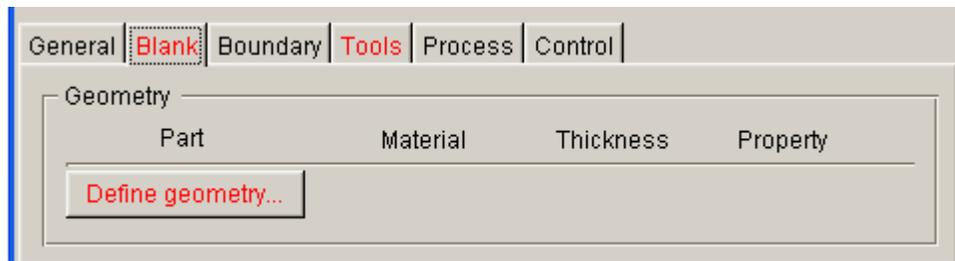

Figure 1.7 Define blank
2. Then, click **Define geometry...** button from **Geometry** field in the blank definition interface. See Figure 1.7.